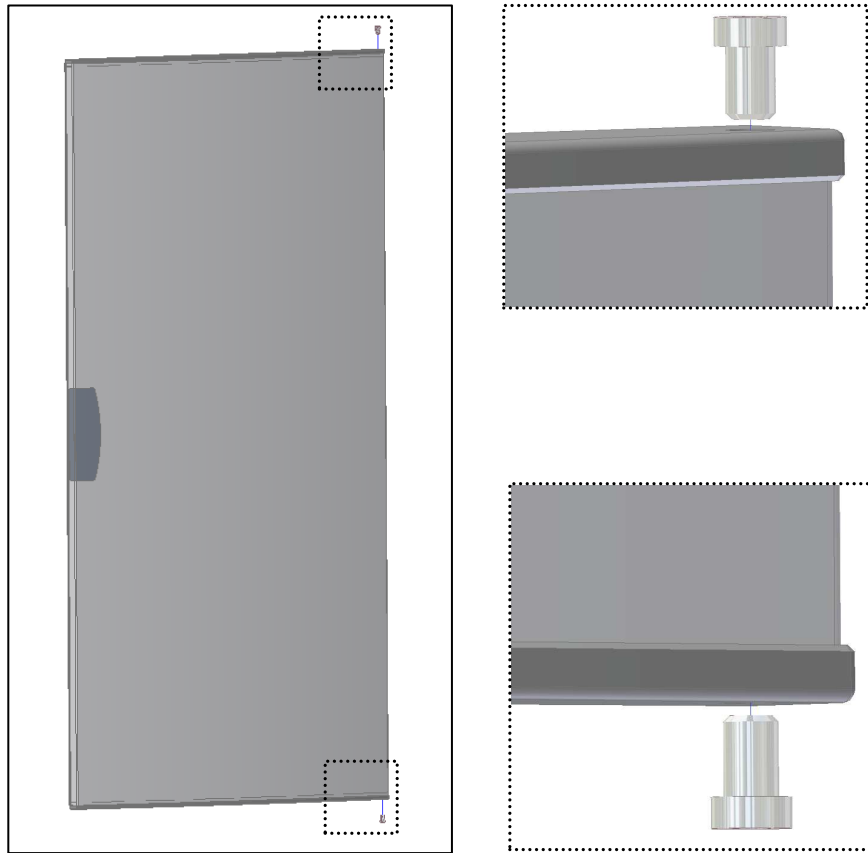

Fig. 8
- Insert the **sleeves** in the inferior and superior side of the door (Fig.8).